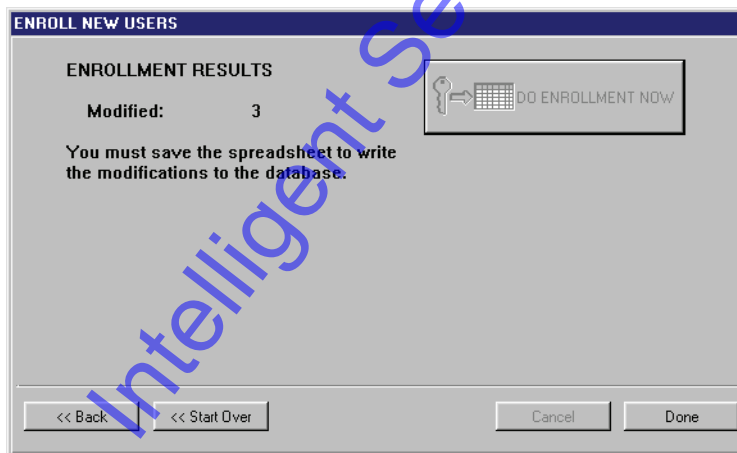

Figure 10-51: Enrollment Results Window - Cards Added
6. Once you have verified all the information is correct on the confirmation display, click on the  button. The cards are assigned to the selected spreadsheet rows and the enrollment results are displayed (see Figure 10-51).